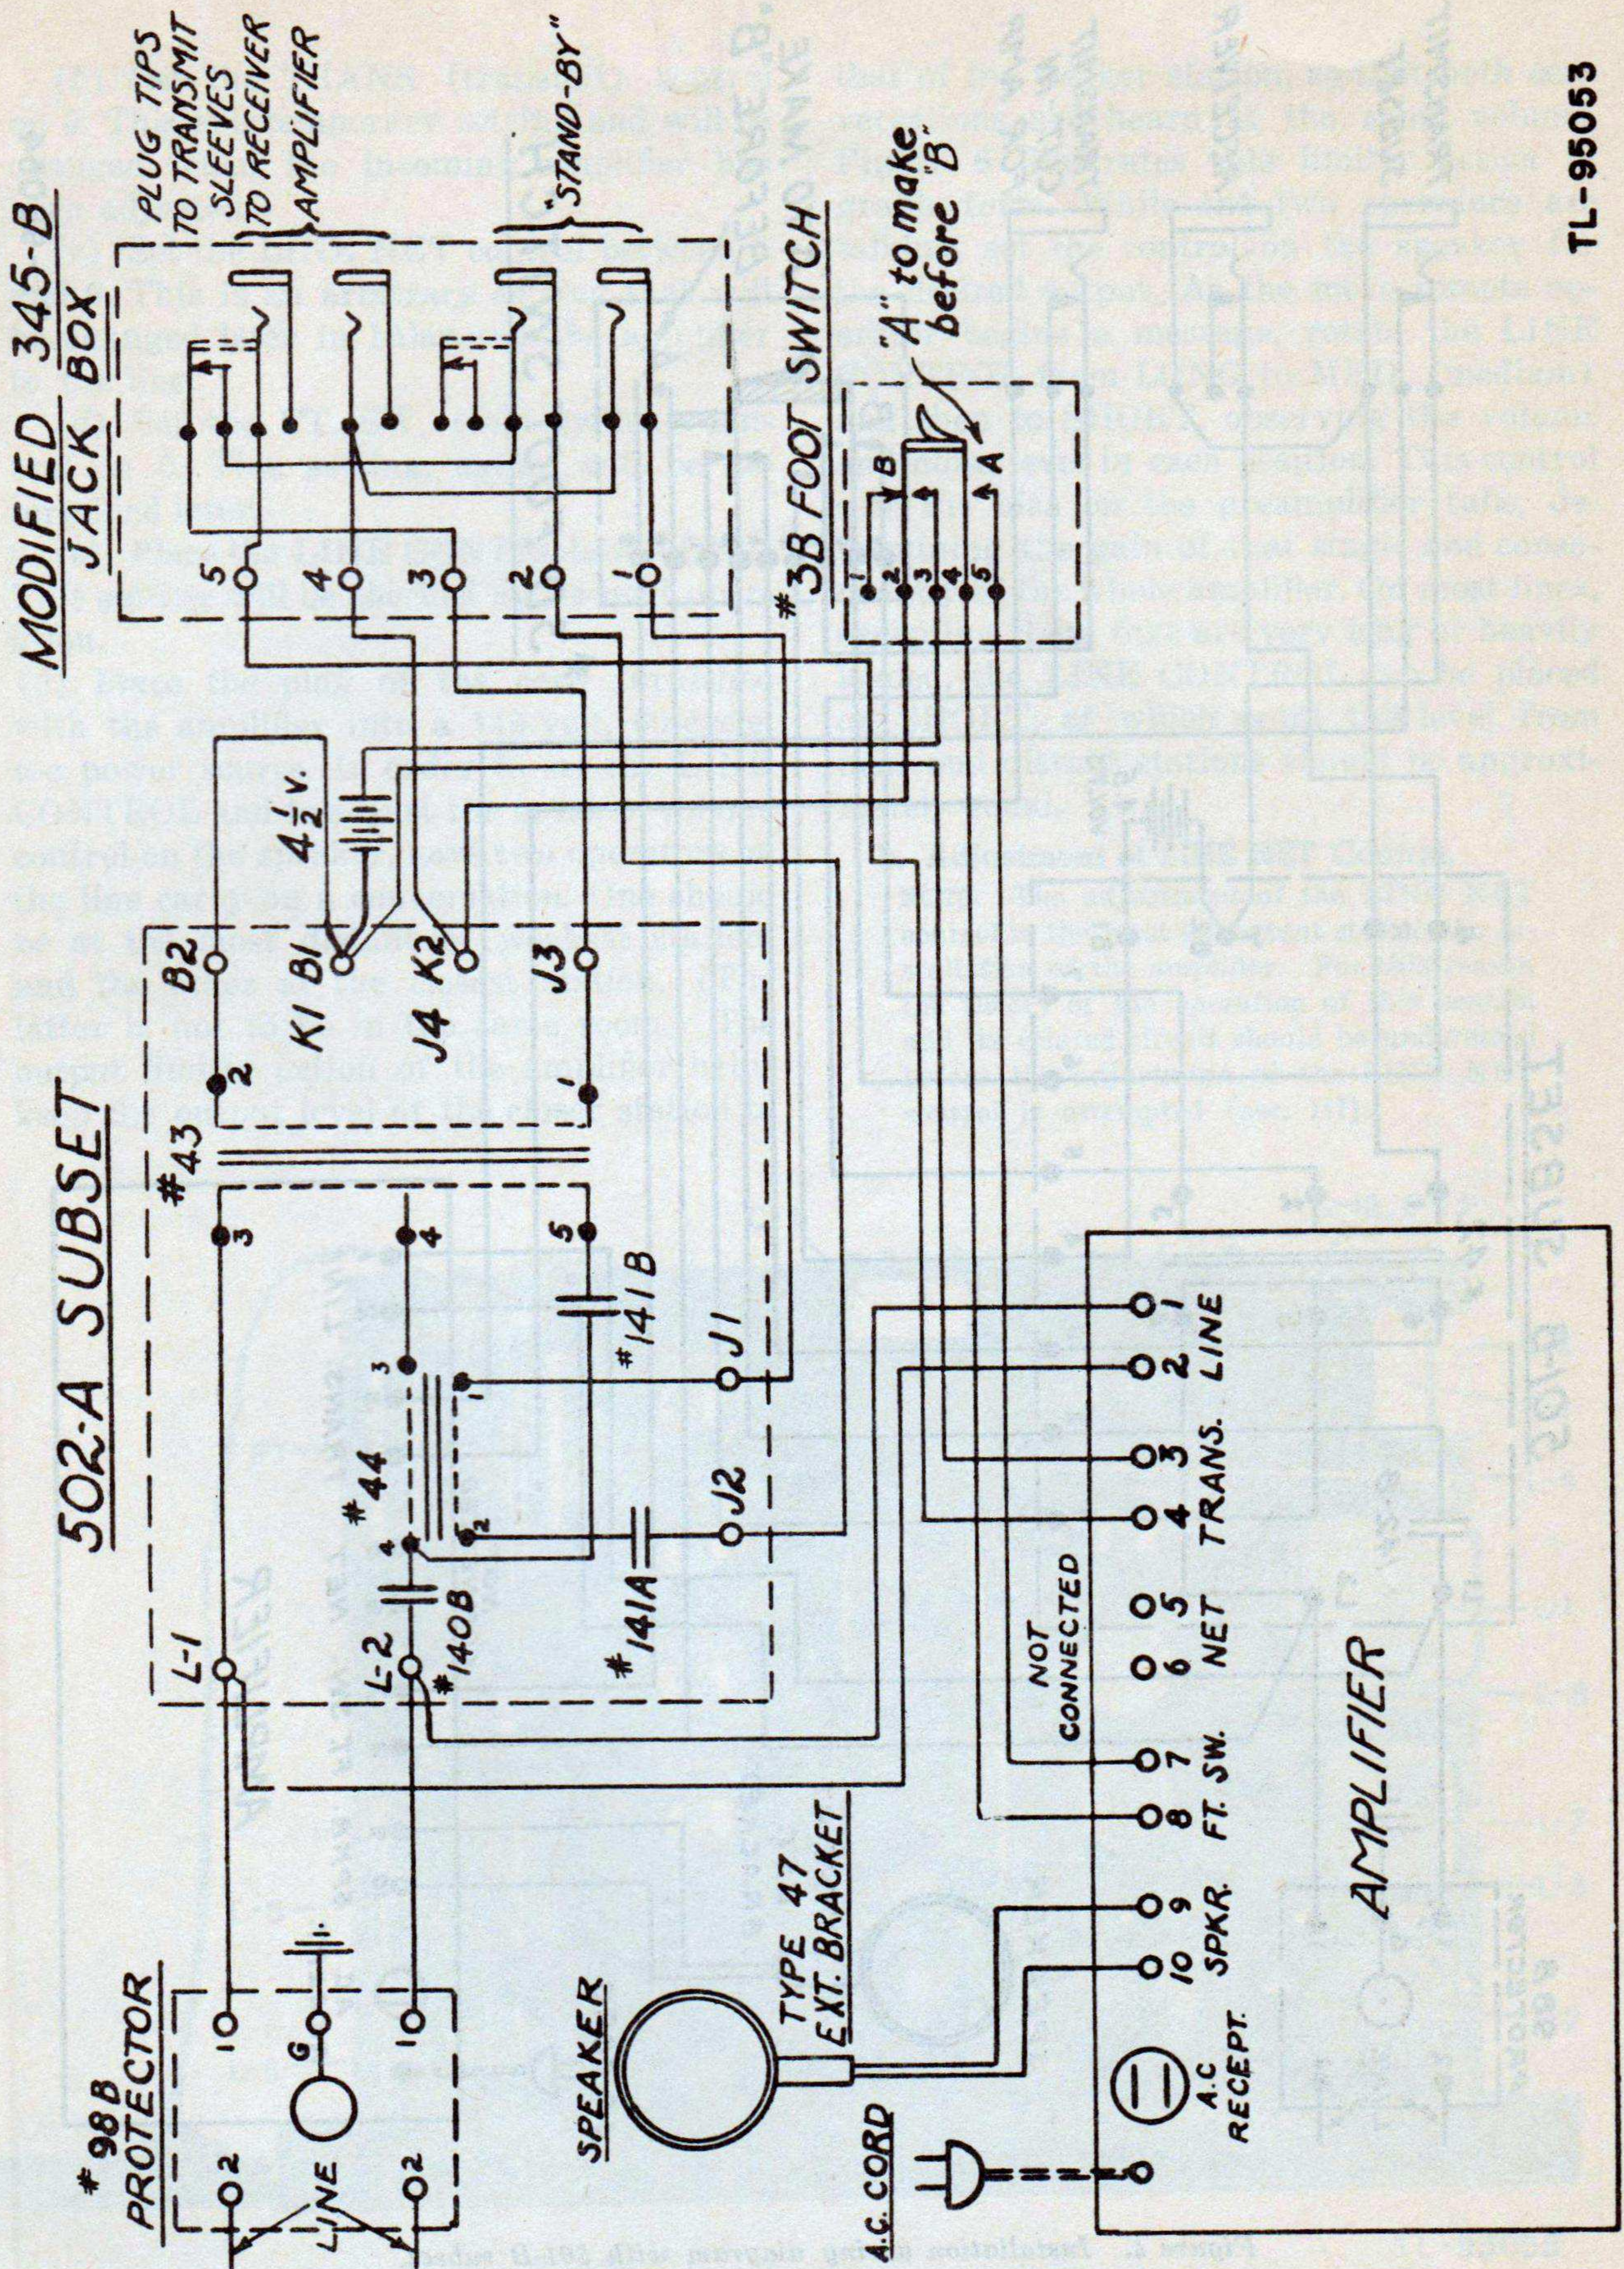
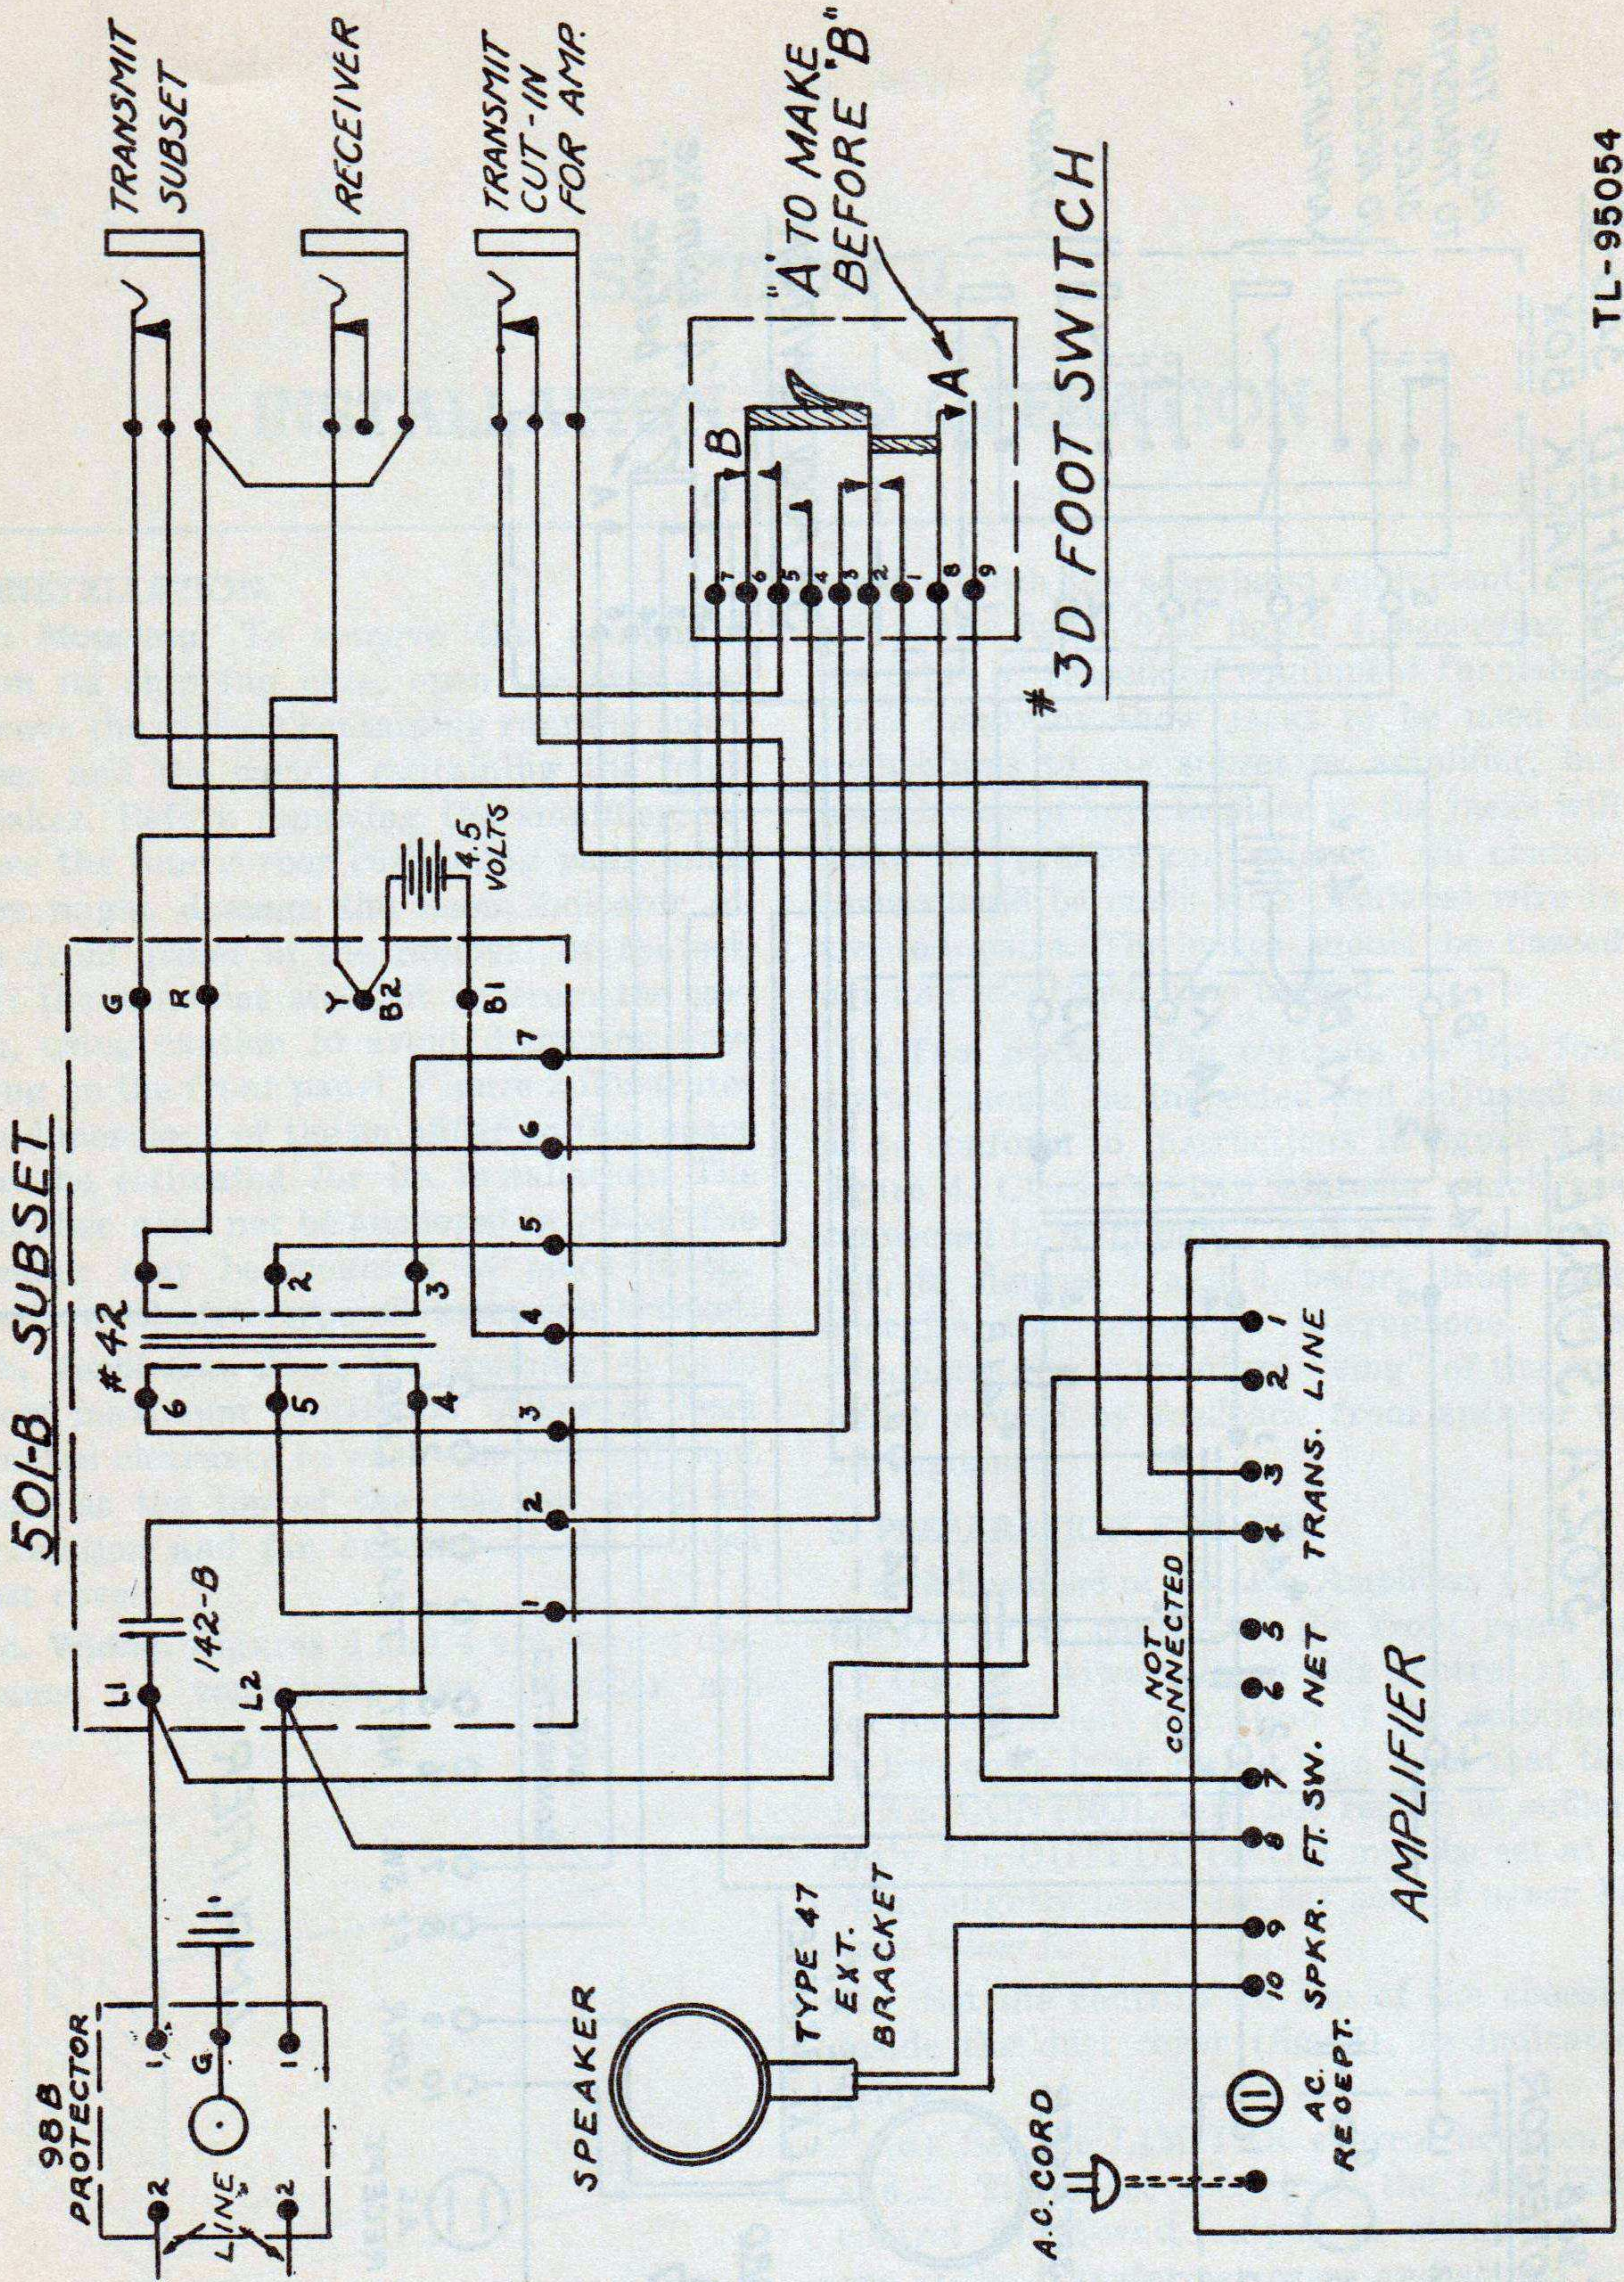

Figure 3. Installation wiring diagram with 502-A subset.
Figure 4. Installation wiring diagram with 501-B subset.
c. Wiring. Figures 3 and 4 are wiring diagrams for connecting the amplifier and
speaker with the associated equipment. Follow either figure 3 or figure 4, according to the types of associated equipment furnished. Both diagrams show jacks to be used for connections to the subset or amplifier, but installation of keys in place of the jacks will make for greater convenience. All connections should be made with insulated wire in twisted pairs. The wires should be buzzed out and identified, then tagged.
d. Foot Switch. The contacts on the foot switch should be inspected and adjusted so as to conform to instructions in figure 3 or figure 4. Close the two contacts which are connected to terminals 7 and 8 of the amplifier, in figures 3 and 4, before those that energize the telephone microphone. This eliminates the momentary "sing" of the amplifier caused by feedback from speaker to microphone.